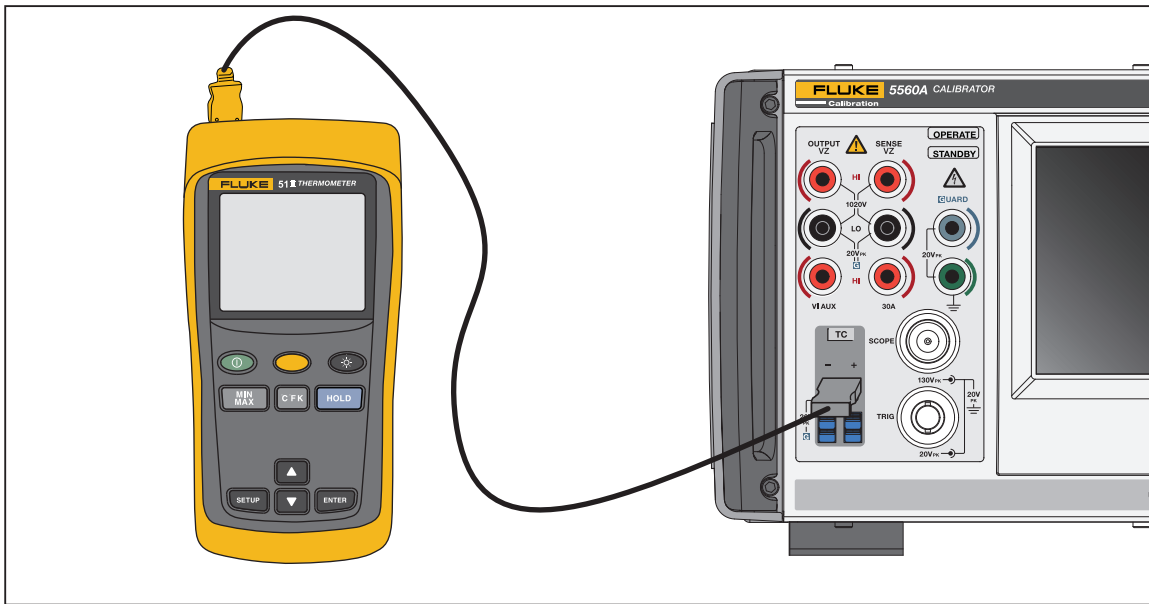

Figure 14. Cable Connections for Testing a 50 Series Thermometer
1. Connect the Fluke 51 Thermometer to the Calibrator using the appropriate connection cable (Figure 14). The connection cable and miniconnector material must match the thermocouple type. For example, if testing a K thermocouple, the cable and miniconnector are for a type K thermocouple.
For Figure 14, connection wiring must match the thermocouple type (for example, K, J).
2. Ensure the Calibrator is in standby and connect the DUT to the Calibrator as shown in Figure 14. When making this connection with the DUT case top removed, make sure that the wide blade of the thermocouple is oriented the same as the case top would normally allow.